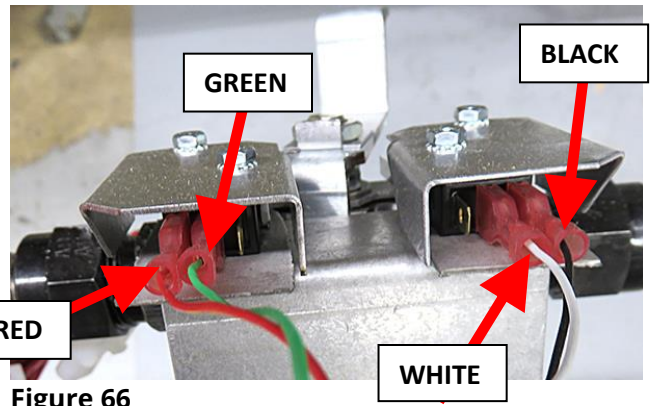

Figure 66
65. Locate the 1085907 Bulk Oil plumbing assembly. Facing the switch connectors, attach the harness (8122519) to the Bulk Oil Plumbing assembly. Beginning with the switch on the left, attach the red wire to the farthest left connector; next attach the green wire, to the connector directly to the right of the red. On the right switch, attach the black wire to the farthest right connector; attach the white wire to the connector left of the black wire (see Figure 66).